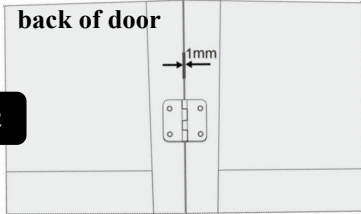

Figure 12
Step 1: Place door panels flat on a platform with the back side facing up. Maintain a "1 mm" gap between the door panels as shown to ensure proper opening and closing (Figure 12).